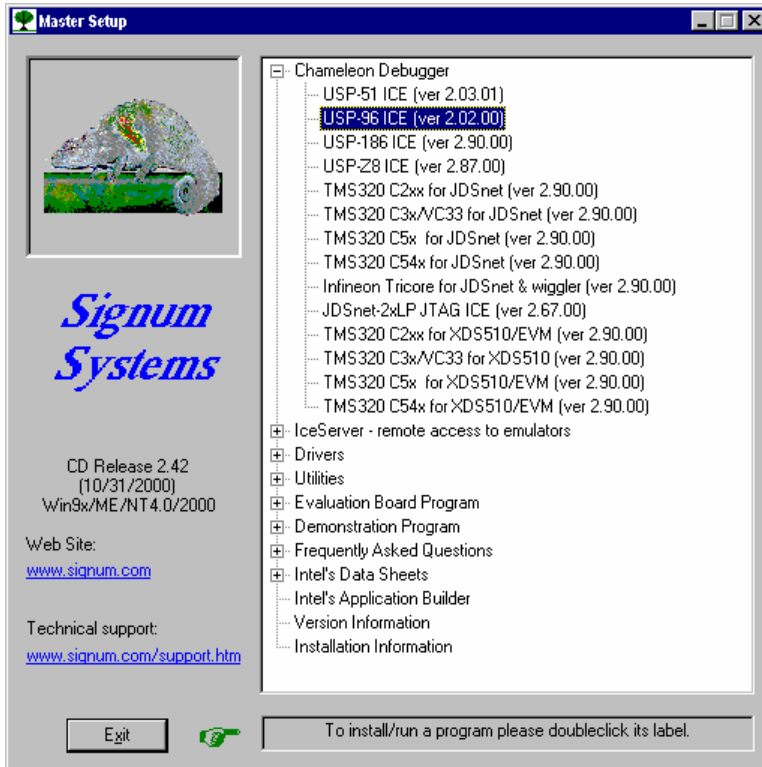

FIGURE 1 Chameleon Master Setup dialog box.
1. Insert the *Development Tools for Windows95/NT* CD into your CD-ROM drive. In the Master Setup window, select Chameleon Debugger and double-click USP-96 ICE, as shown in Figure 1.